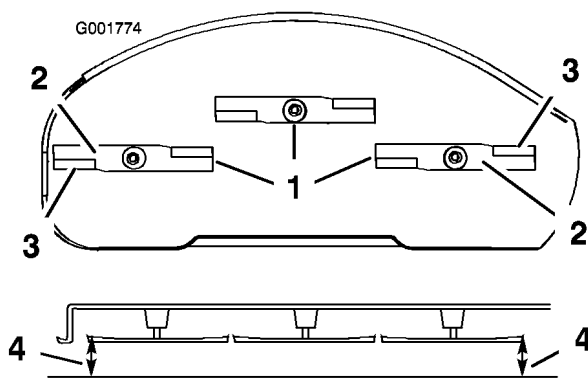

Figure 41
5. Carefully rotate the blade(s) side to side (Figure 41). Measure between the outside cutting edges and the flat surface (Figure 41). If both measurements are not within 3/16 inch (5 mm), an adjustment is required; continue with this procedure.